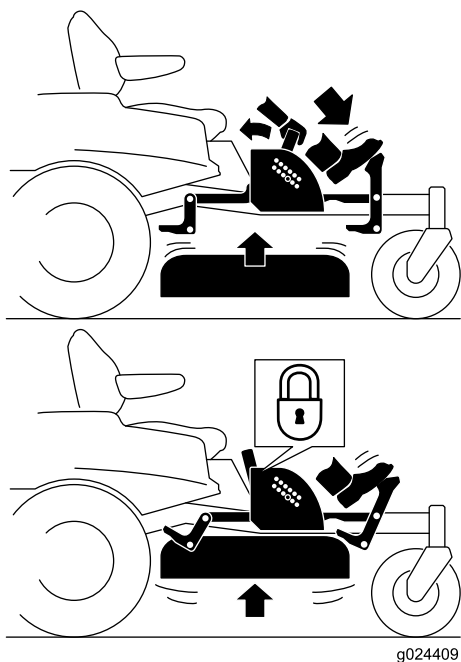

Figure 27
- Press the deck-lift pedal down with your foot and continue to press the pedal until the deck locks in the transport position (Figure 27).
- Push on the deck-lift pedal with your foot and pull the transport lock handle rearward to disengage the transport lock (Figure 27).
4. Push on the deck-lift pedal with your foot and pull the handle rearward to disengage the transport lock (Figure 27).